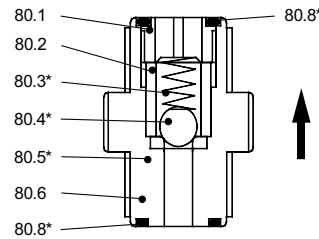

fig. 5 Change the valve seat and ball.
- Replace seat (pos. 80.5, see fig.5)
- Unscrew the screw part (pos 80.1, see fig.5).
- Remove the spring (pos. 80.3, see fig.5), spacer (pos. 80.2, see fig.5), ball (pos. 80.4, see fig.5) and seat (pos. 80.5, see fig.5).